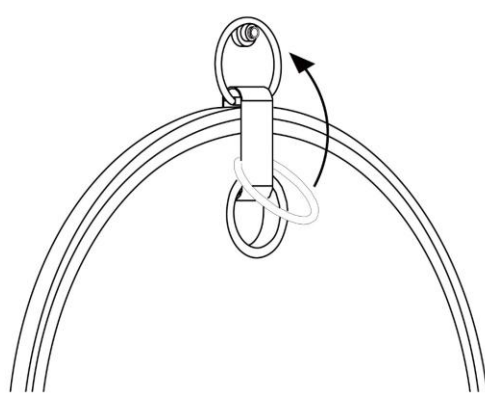
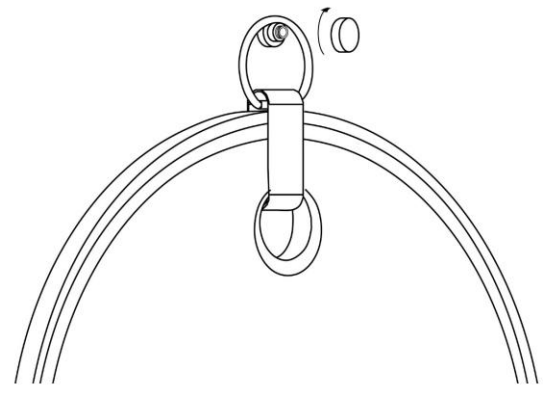

Fig.2
Fig.3
- 5) Attach the metal loop onto mounting knob (Fig.2) and fasten the end cap (E). (Fig3)